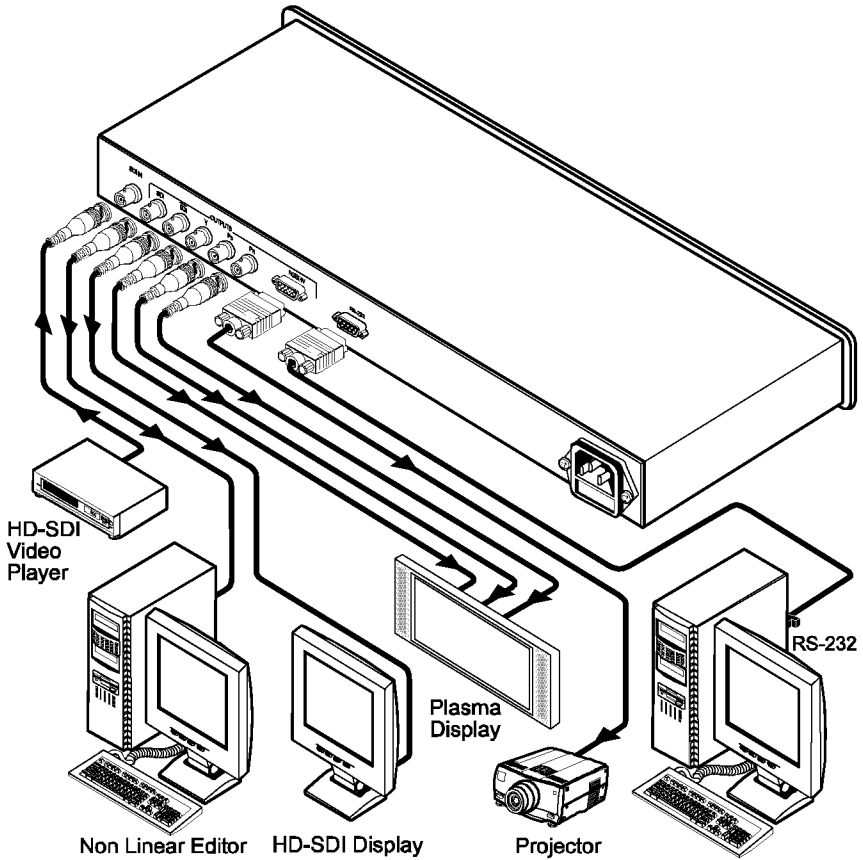

Figure 2: Connecting the FC-41 HD-SDI To Component Converter
To connect the **FC-41**, as illustrated in the example in Figure 2, do the following¹:
4. Connect the power cord² (not shown in Figure 2).